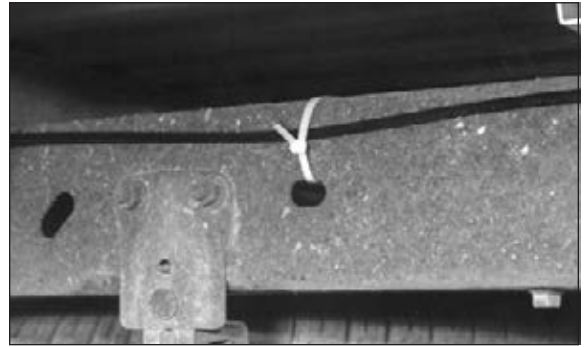

Figure 21
6. Route the air line along the frame to the air fitting on the air spring. Keep at least 6" of clearance between the air line and heat sources, such as the exhaust pipes, muffler, or catalytic converter. Avoid sharp bends and edges. Use the plastic tie straps (BB) to secure the air line to fixed, non-moving points along the chassis (Figure 21). Be sure that the tie straps are tight, but do not pinch the air line. Where there are no holes to secure the straps to, use the air line clip (HH) and self tapper (II) to secure the air line to the frame (Figure 22). Leave at least 2" of slack to allow for any movement that might pull on the air line.